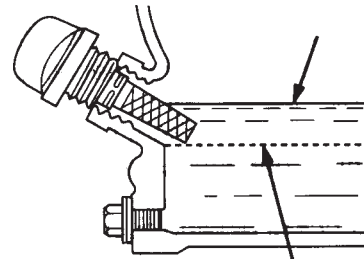

Figure 18. Engine Oil Dipstick (Oil Level)
4. If the oil level is low (Figure 18), fill to the edge of the oil filler hole with the recommended oil type (Table 5). Maximum oil capacity is 0.63 quarts (0.60 liters)